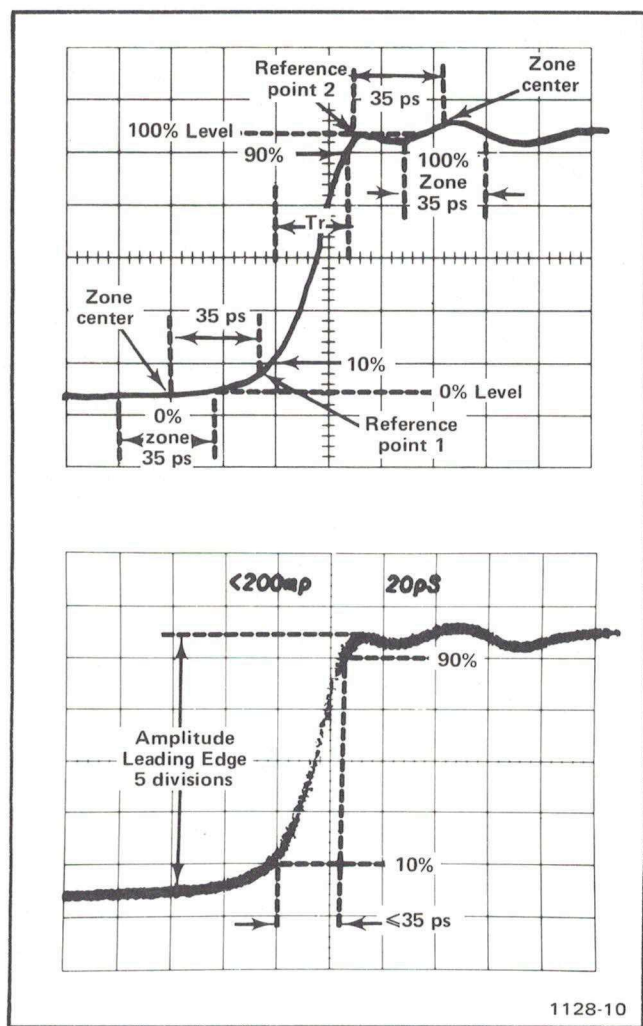

Fig. 4-3. Incident pulse risetime of the S-6, S-52 and 7S12 system.
1. Find the knee reference point at the start (end) of the step where the rate of change of the slope is maximum (the radius of curvature is least). See Fig. 4-3 for this waveform.